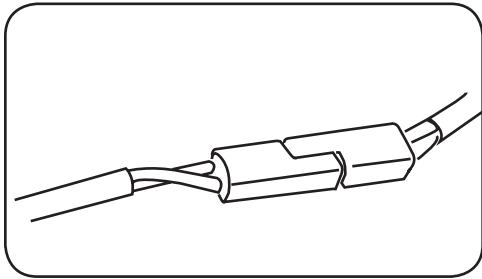

Figure 2-18
9. Connect the switch harness to the motor wire. See Figure 2-18.